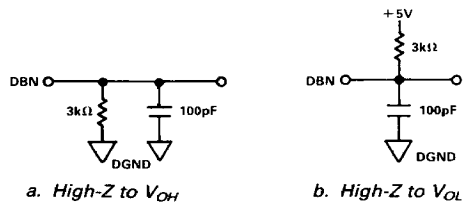

Figure 3. Load Circuits for Access Time Tests (t_{12})
- t_4 , t_{10} , t_{11} and t_{12} are measured with the load circuits of Figures 3 and 5 and defined as the time required for an output to cross 0.8V or 2.4V.